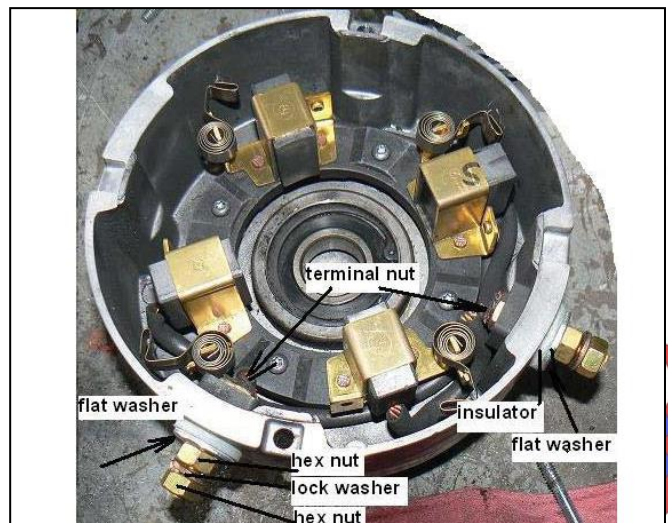

Figure 9-17
4. Install insulators and brush leads into motor head. See Figure 9-17. Brush motor terminals, A1 and A2, should be torqued to 140 in. lbs. (15.8 Nm).